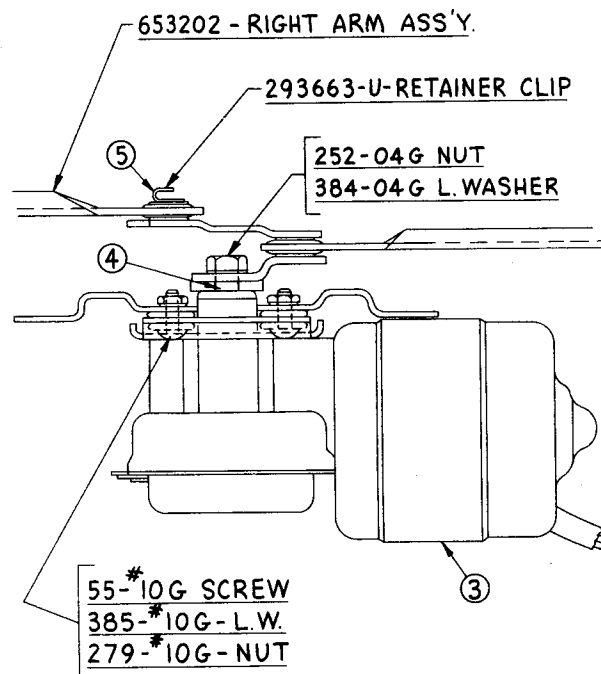

FIG. 3
5. Mount electric wiper motor as shown with motor part on the driver's side of cab. Four bolts, nuts, and lock washers are used as shown in Fig. 3.
- small arm attached to side of disk on the motor with the lugs of arm engaged in the notches of the drive washer of motor, install lock washer and nut, using a socket wrench through hole in the disk (4, Fig. 3).
10. Attach right-hand link using retainer clip (5, Fig. 3). Test operation of wiper.